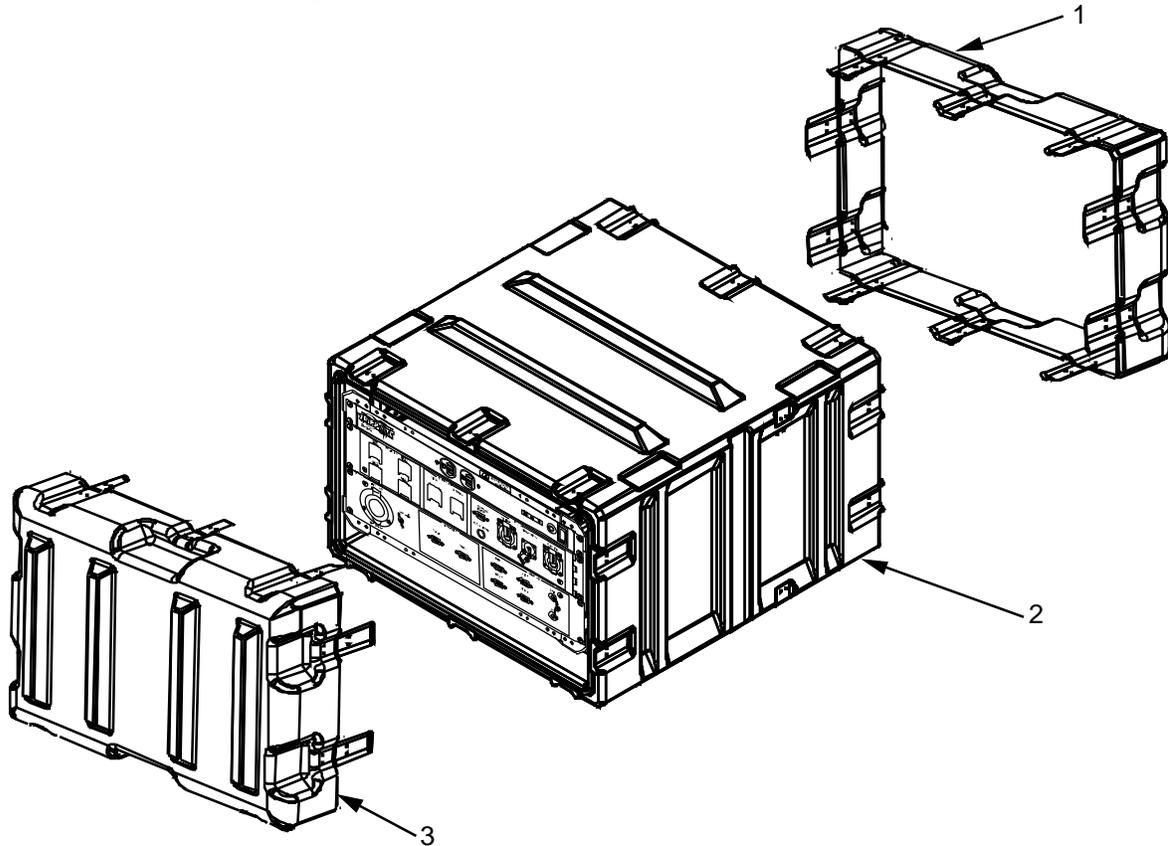

Figure 2. AVCS (MINI) Transit Case with Twist Locks.
2. Turn all twist locks three-quarters turn to release the front cover (Figure 2, Item 1) from AVCS (MINI) transit case and remove from the main case (Figure 2, Item 2).
5. Release the twist locks on the rear cover (Figure 2, Item 3) and remove from the main case.